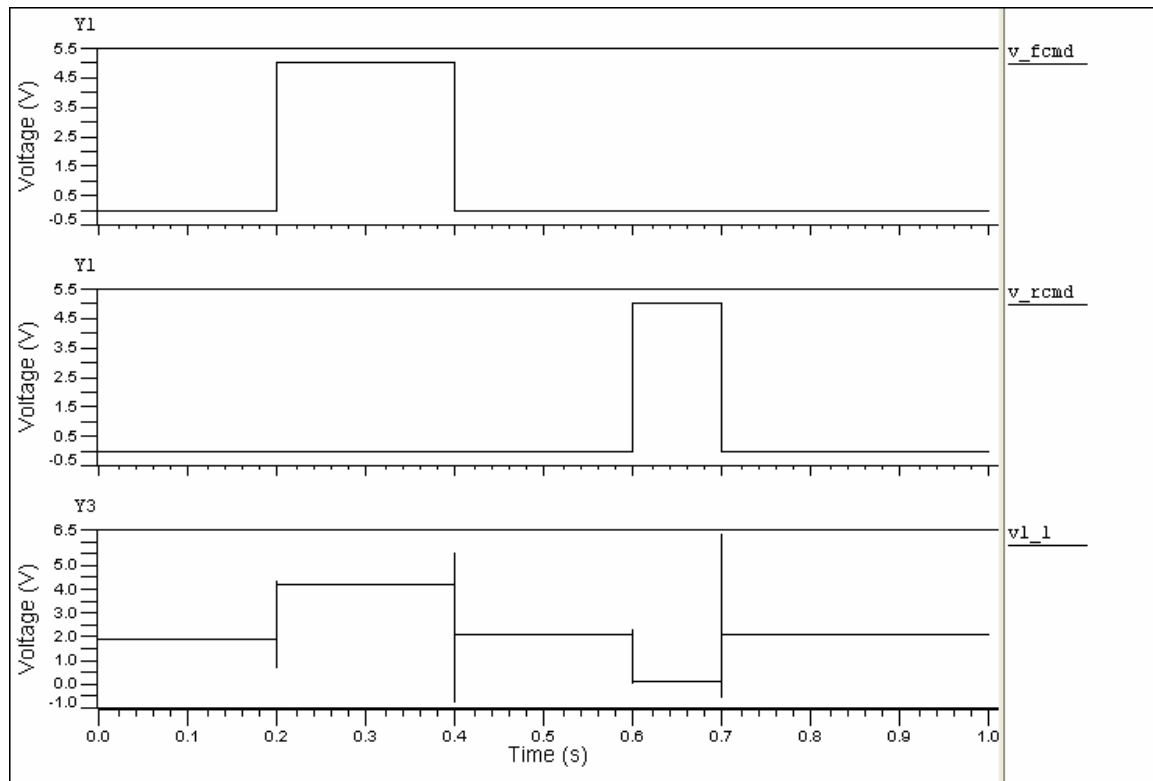

Figure 3 - tb_hbridge_spice signals
6. Individual signals can be viewed by double-clicking with the LMB or by using the drag-and-drop feature. You can also plot a signal from the schematic by selecting the desired signal and using **RMB > Plot Waveform**. Use one of these methods to plot the signals **v_fcmd**, **v_rcmd** and **vl_1** which should appear as shown in Figure 3 below: